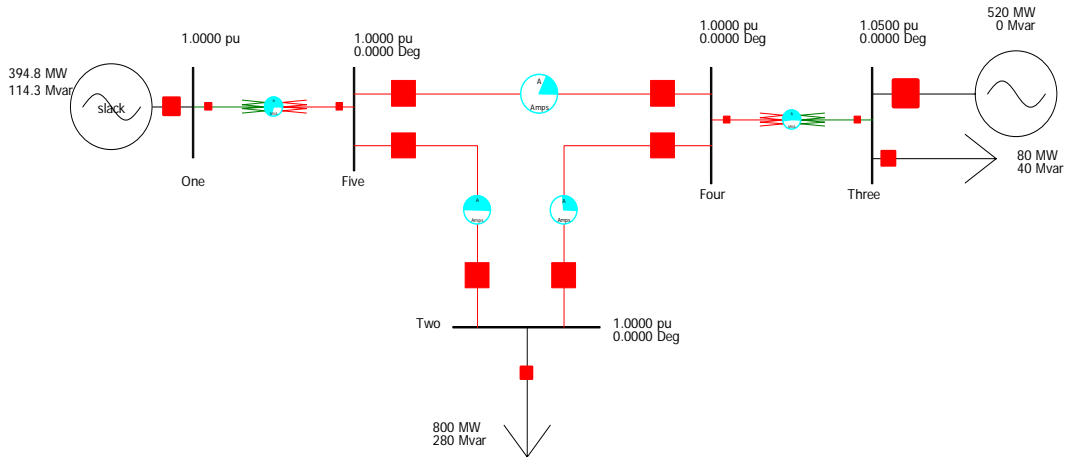

FIGURE -9
- Draw the oneline diagram of the system in the PowerWorld Simulator, using the procedures described in the introduction section. The system schematic should look like the one in Figure-9.